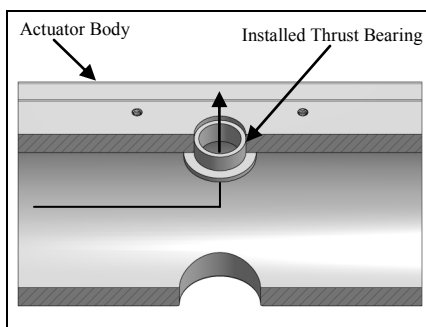

Fig. 9.3
- c. Body: Insert the thrust bearing into the top pinion hole as shown. (Fig 9.3)